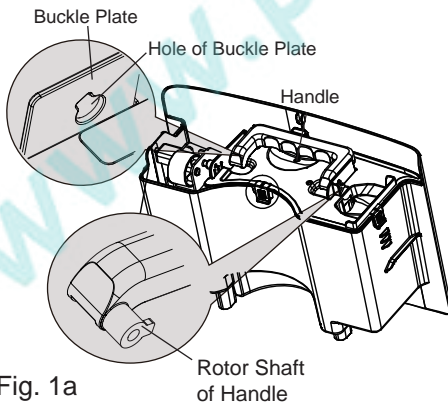

Fig. 1a
(1) Direct the rotor shaft of handle to the hole of buckle plate. Pull the bucket plate at the handle side by following the arrow direction. Remove the handle. (shown in Fig.1a)